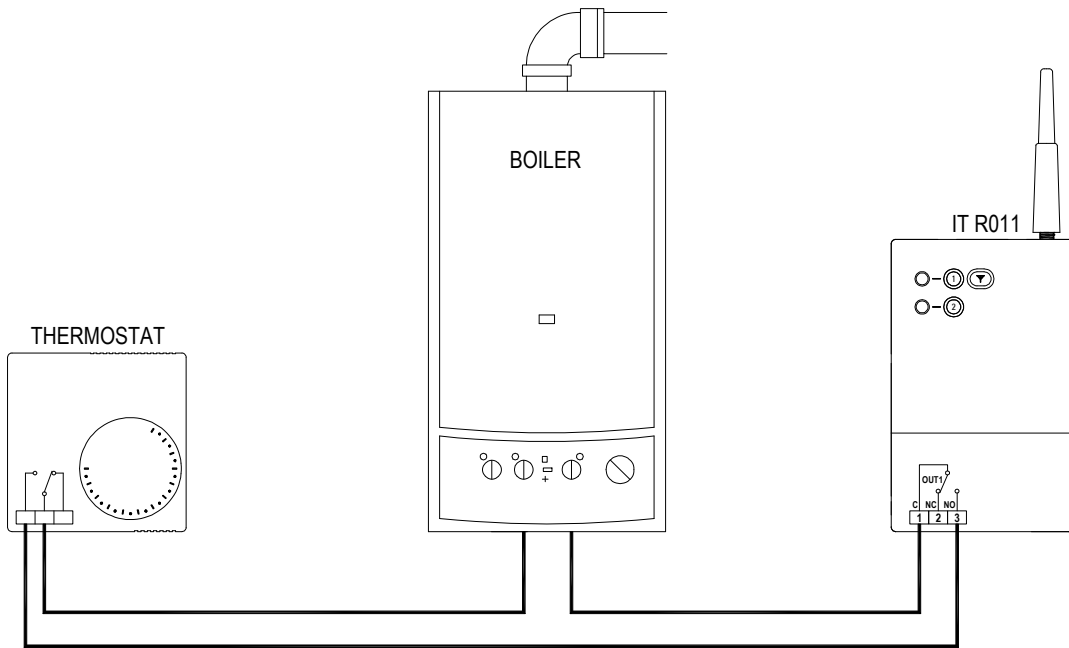

Fig. 9: Example of the telephone interface connected in series with a thermostat.
**Connection in series** (Fig. 9): OUT1 must be in the ON status in order to turn on the burner and permit regulation of the temperature via the thermostat. To disable the temperature regulation function, you must turn OUT1 OFF. The thermostat setpoint should always be left on the "comfort" temperature. If you want to use the antifrost function, you must enable it from the interface by giving the ANTIFROST command.